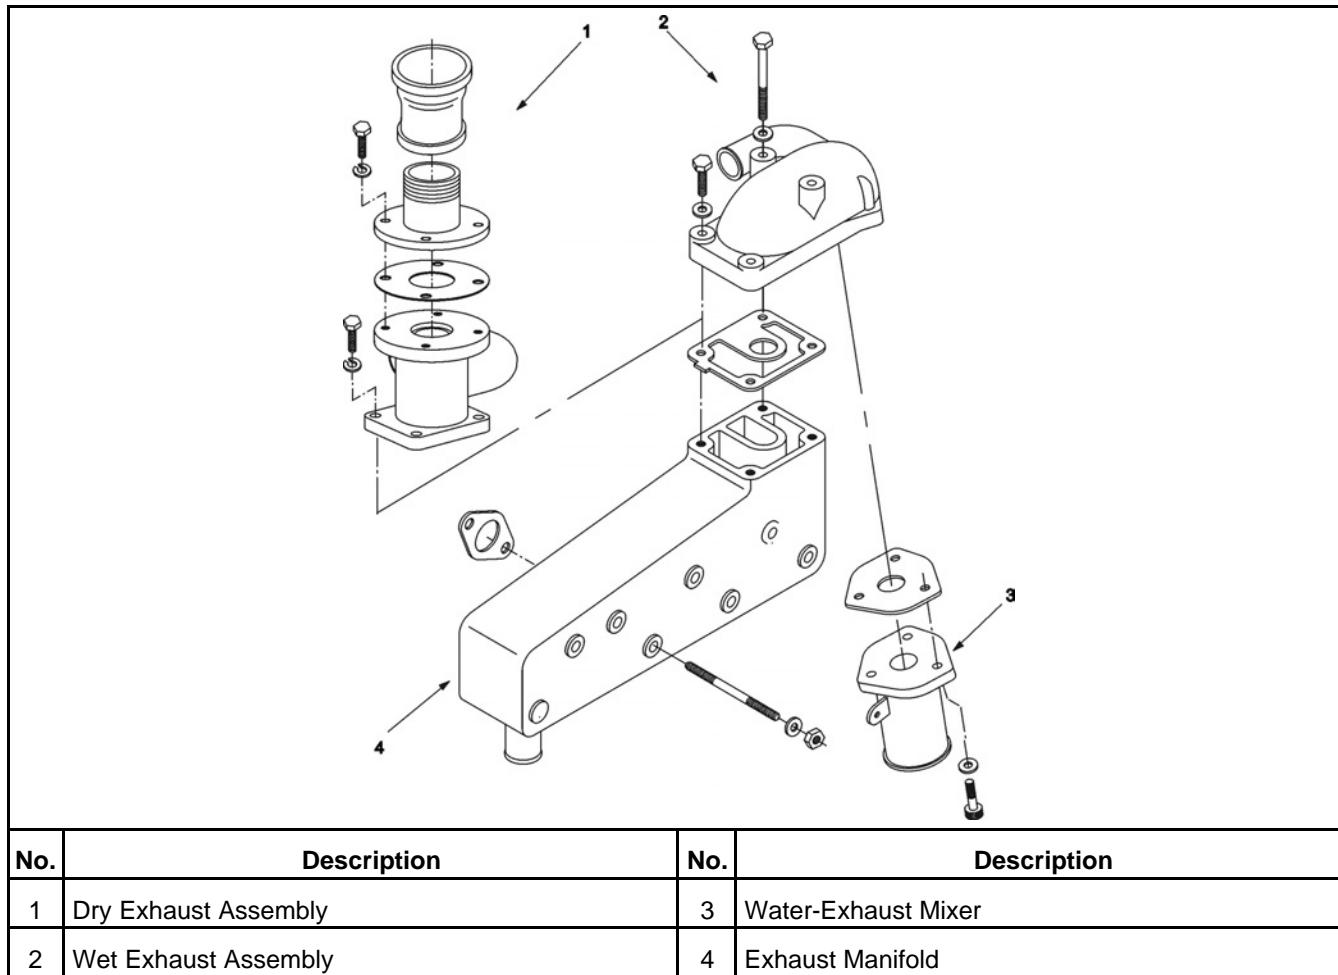

FIGURE 44. MDKBP, MDKBR, MDKBV
MDKBP, MDKBR, MDKBV: (Figure 44) When reassembling, use new manifold and mixer gaskets. Torque the manifold nuts (2 per port) and mixer or dry exhaust flange bolts (4) to 21-32 Nm (16-23 ft-lb). Torque the wet exhaust hose adapter flange bolts (3) to 8.7-13.0 Nm (6.4-9.6 ft-lb).